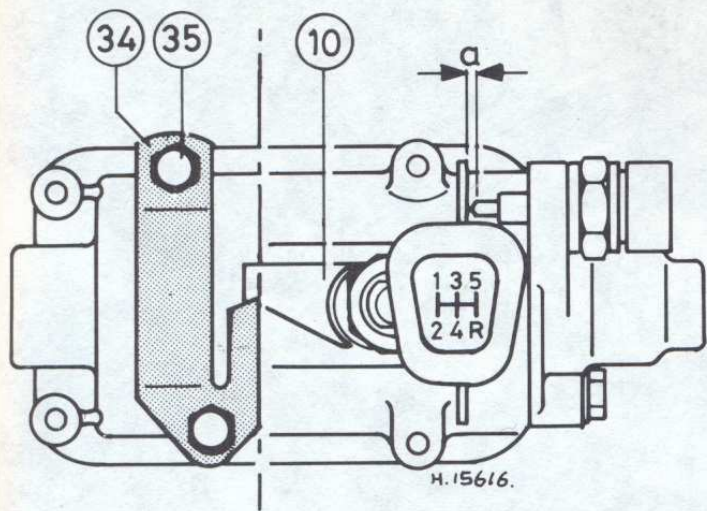

Fig. 6.25 Five-speed gearbox gear lever alignment (Sec 9)
- gear lever and push the gear lever fully to the right and forwards. Check that the stop plate and finger are aligned as shown in Fig. 6.25 – if not, reposition the stop plate.